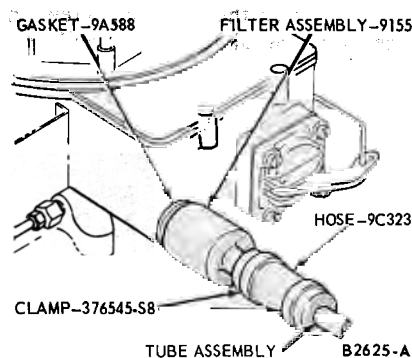

FIG. 3—Typical In-Line Fuel Filter Assembly
A separate in-line fuel filter (Fig. 3) is used on all engines. The filter is of one-piece construction and does not contain a cleanable filter element.
The in-line fuel filter used on all engines (Fig. 3) is of one-piece construction and cannot be cleaned. **Replace the filter if it becomes clogged or restricted.**
2. Loosen the retaining clamp securing the fuel inlet hose to the fuel filter (Fig. 3).